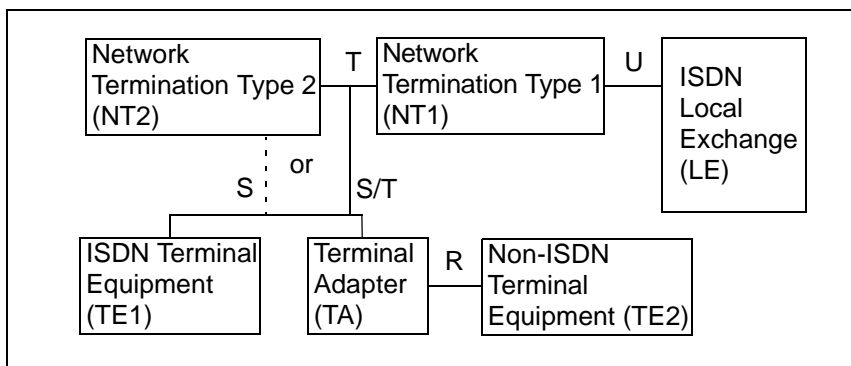

Figure 0-2. ISDN Reference Point Diagram
There are a number of reference points in an ISDN system. Figure 0-2 shows a graphical representation of the ISDN reference points. The U reference point is the local loop between the LE (local exchange) and the NT (network termination) device. The U interface is a two-wire interface, which in North America and Asia is typically supplied by a telecommunications service provider. The U interface operates in 2B1Q (two binary, one quaternary) format, and can travel for miles without repeaters. The T reference point is used only with customer premises switching equipment (NT2). The S/T reference point is the four-wire interface between the network termination device (NT1) and the terminal equipment (TE1) or terminal adapter (TA). The S/T interface is offered in Europe, and is also used with stand-alone NT1 devices.